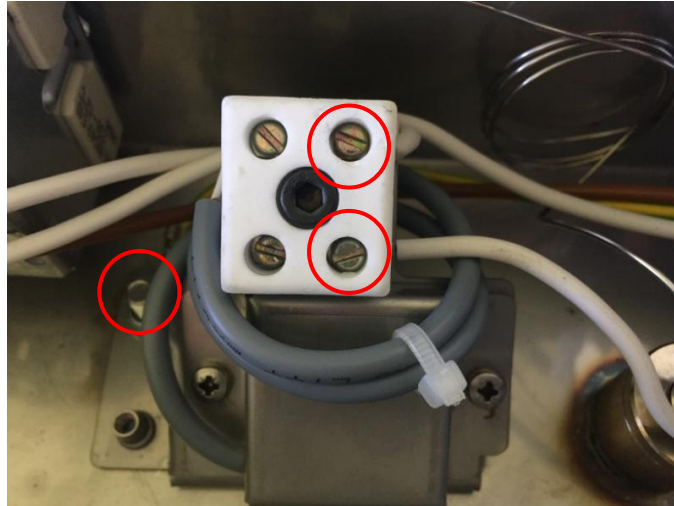

Figure 2
3. Unscrew & remove the 2x wires on the terminal block as well as the 8mm nut that secures the earth cable as shown on Figure 2.